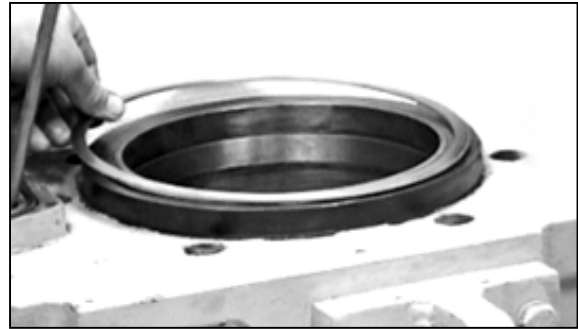

Fig.24 Fit a new cylinder head joint.
2. Fit a new cylinder head joint to the step in the liner flange (**Fig.24**).